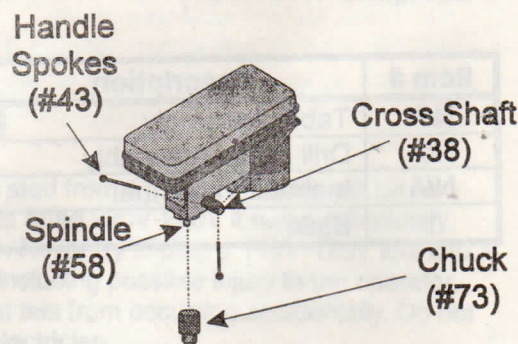

Figure 2 -- Attaching the Handle Spokes and Chuck
Step 5: Attach the **HANDLE SPOKES (#43)** to the **CROSS SHAFT (#38)** as shown in Figure 2.